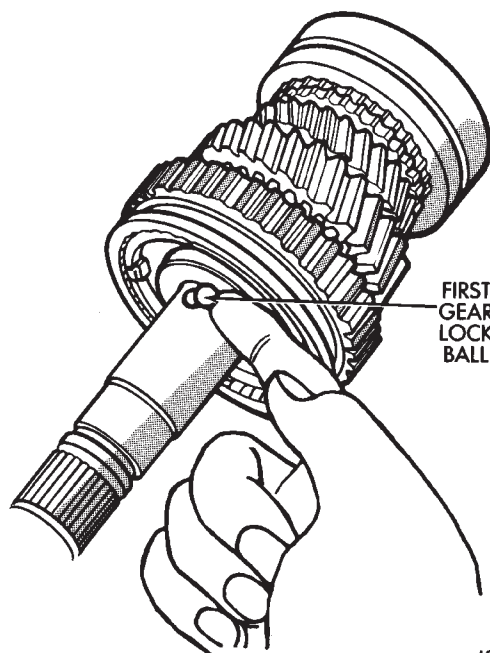

Fig. 111 Install First Gear Bearing Inner Race Lock Ball
(11) Install second gear needle bearing onto output shaft.
(12) Install second gear over bearing and onto output shaft flange.
(13) Install second gear synchronizer ring onto second gear.
(14) Position 1-2 synchronizer assembly onto splines of output shaft.
(15) Using Driver MD-998805, Adapter 6747-1A, and a shop press, press the 1-2 synchronizer onto the output shaft.
(16) Install first gear synchronizer ring into 1-2 synchronizer.
(17) Install first gear bearing inner race lock ball in output shaft (Fig. 111).